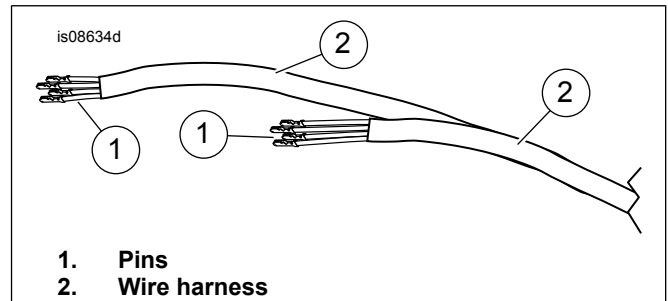
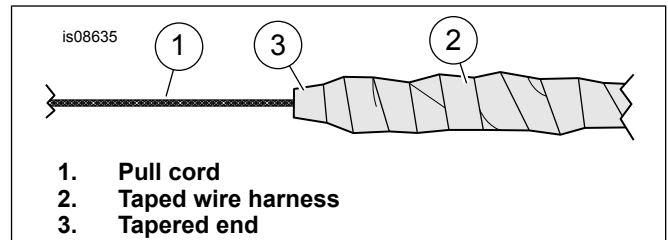

Figure 1. Pins and Wire Harness
Figure 2. Pull Cord and Wire Harness
4. See Figure 1. Stagger the pins (1) so they are not in the same locations along the harness (2). See Figure 2. String a suitable cord (1) through the handlebar. Tie the cord to the wire harness. Wrap tape (2) over the harness and pins. Tape should come to a taper (3) and be flexible to ease pulling through the handlebar. Pull the cord through the bar to route the wire bundle to the proper exit point.